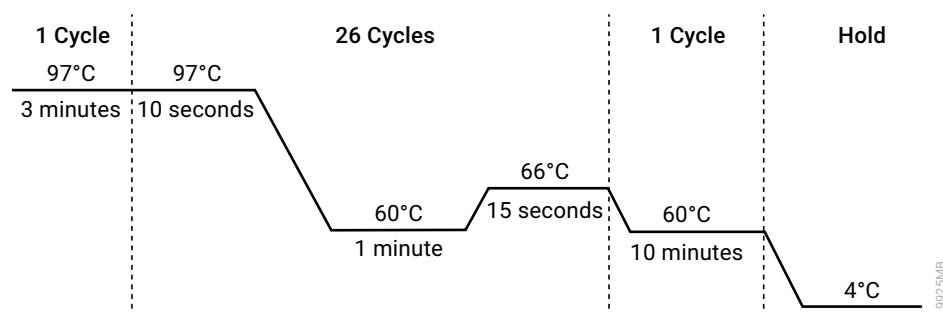

Figure 34. Thermal cycling protocol for the Mastercycler® X50s PCR System.
2. Select and run the protocol provided below and in Figure 34. The total cycling time is approximately 70 minutes.